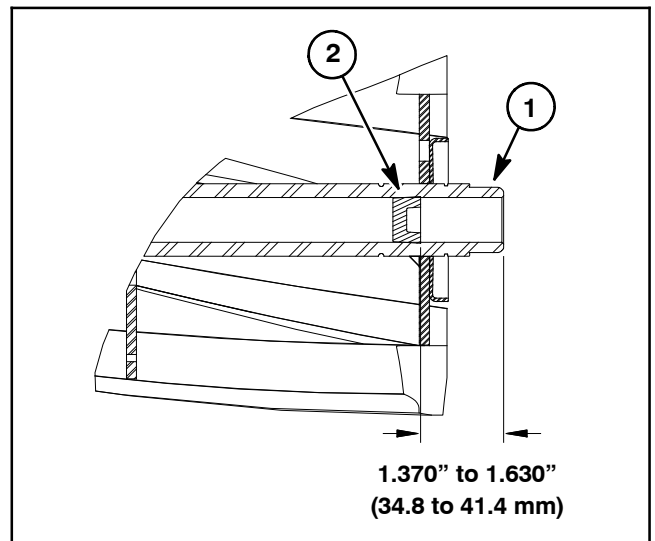

Figure 33
1. If removed, install new reel shaft plugs into cutting reel shaft. Plugs should be recessed into reel shaft from **1.370" to 1.630" (34.8 to 41.4 mm)** (Fig. 33).
2. Install two (2) new retaining rings onto cutting reel shaft. Make sure that the retaining rings are fully seated into the grooves on the shaft.